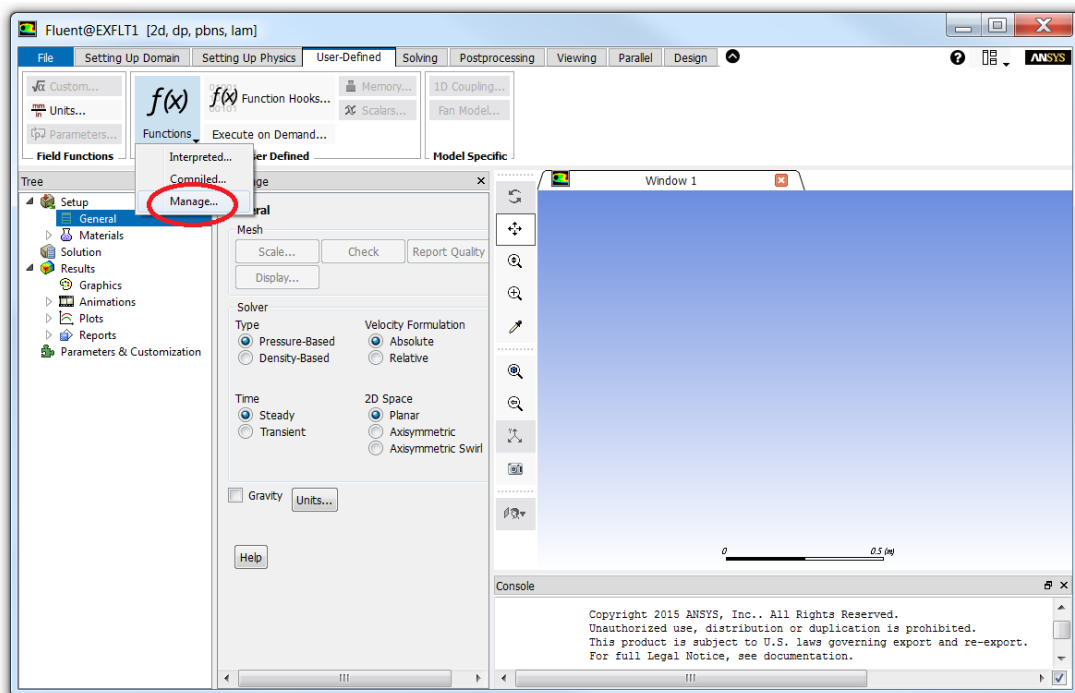

Figure 1.4.12: Library manager opening
3. The Digimat-CAE/ANSYS Fluent interface dynamic library must be loaded into ANSYS Fluent. Access the UDF Library Manager (see figure 1.4.12) and **Load** the library using the copied folder name, e.g. "digi2Fluent" if renamed as in the previous operation (see figure 1.4.13).